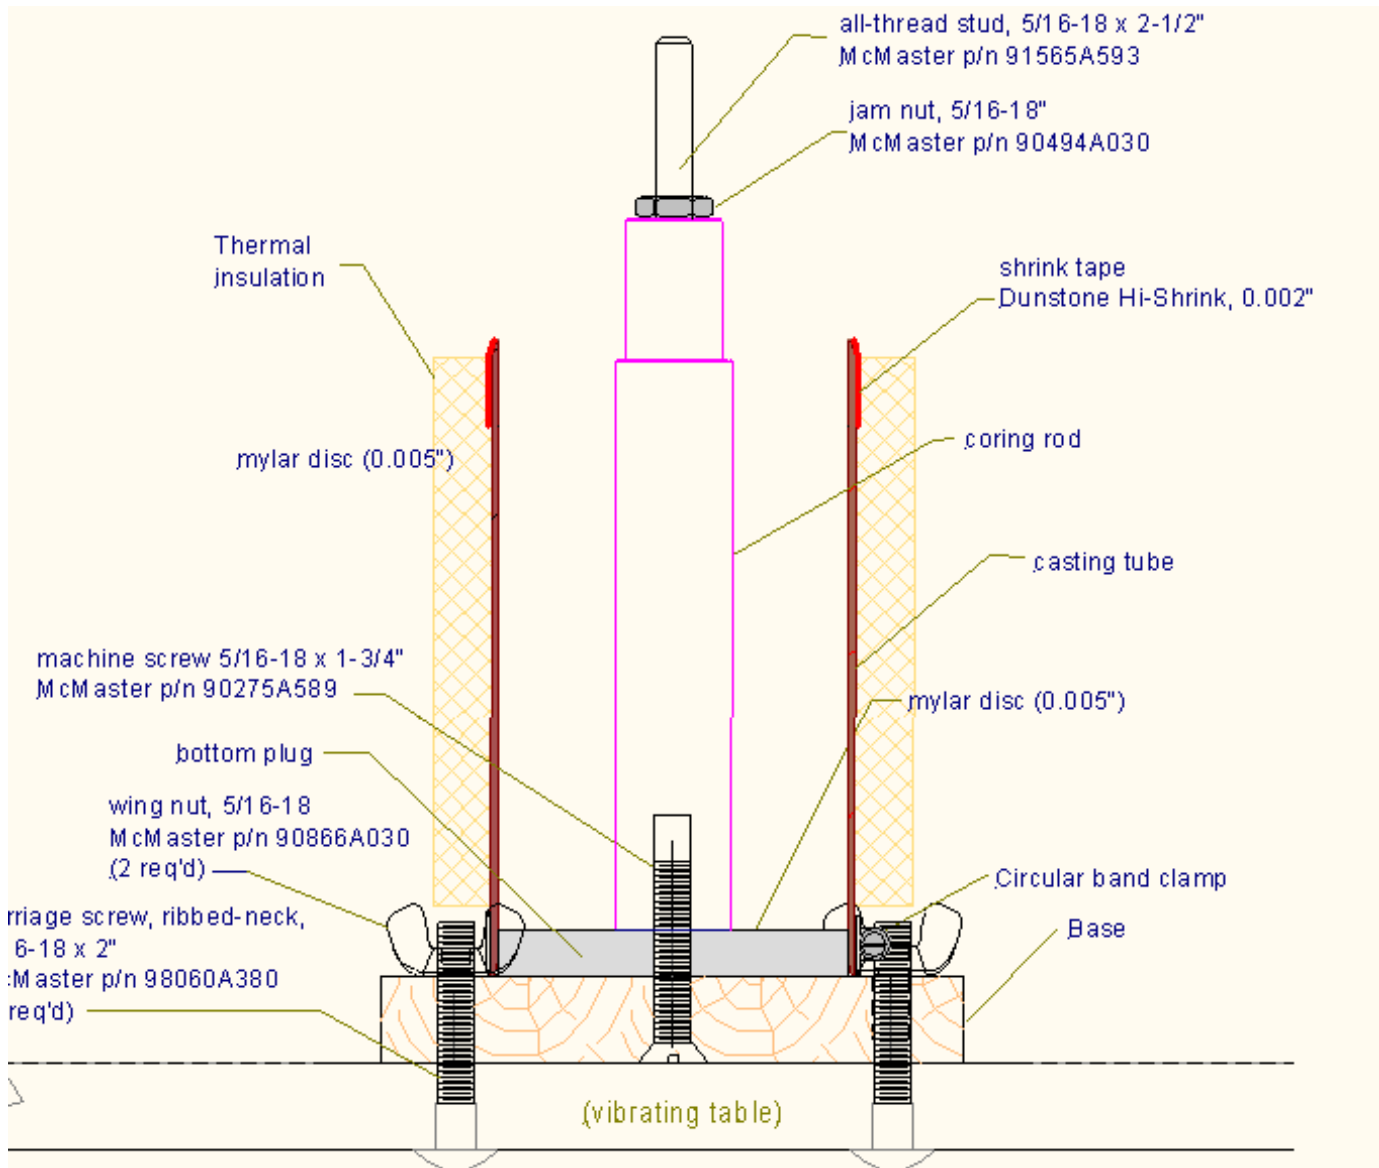

Figure 1 – Setup for propellant loading operation.
6. Prepare casting apparatus for propellant loading, and mount onto vibrating table as shown in Figure 1.